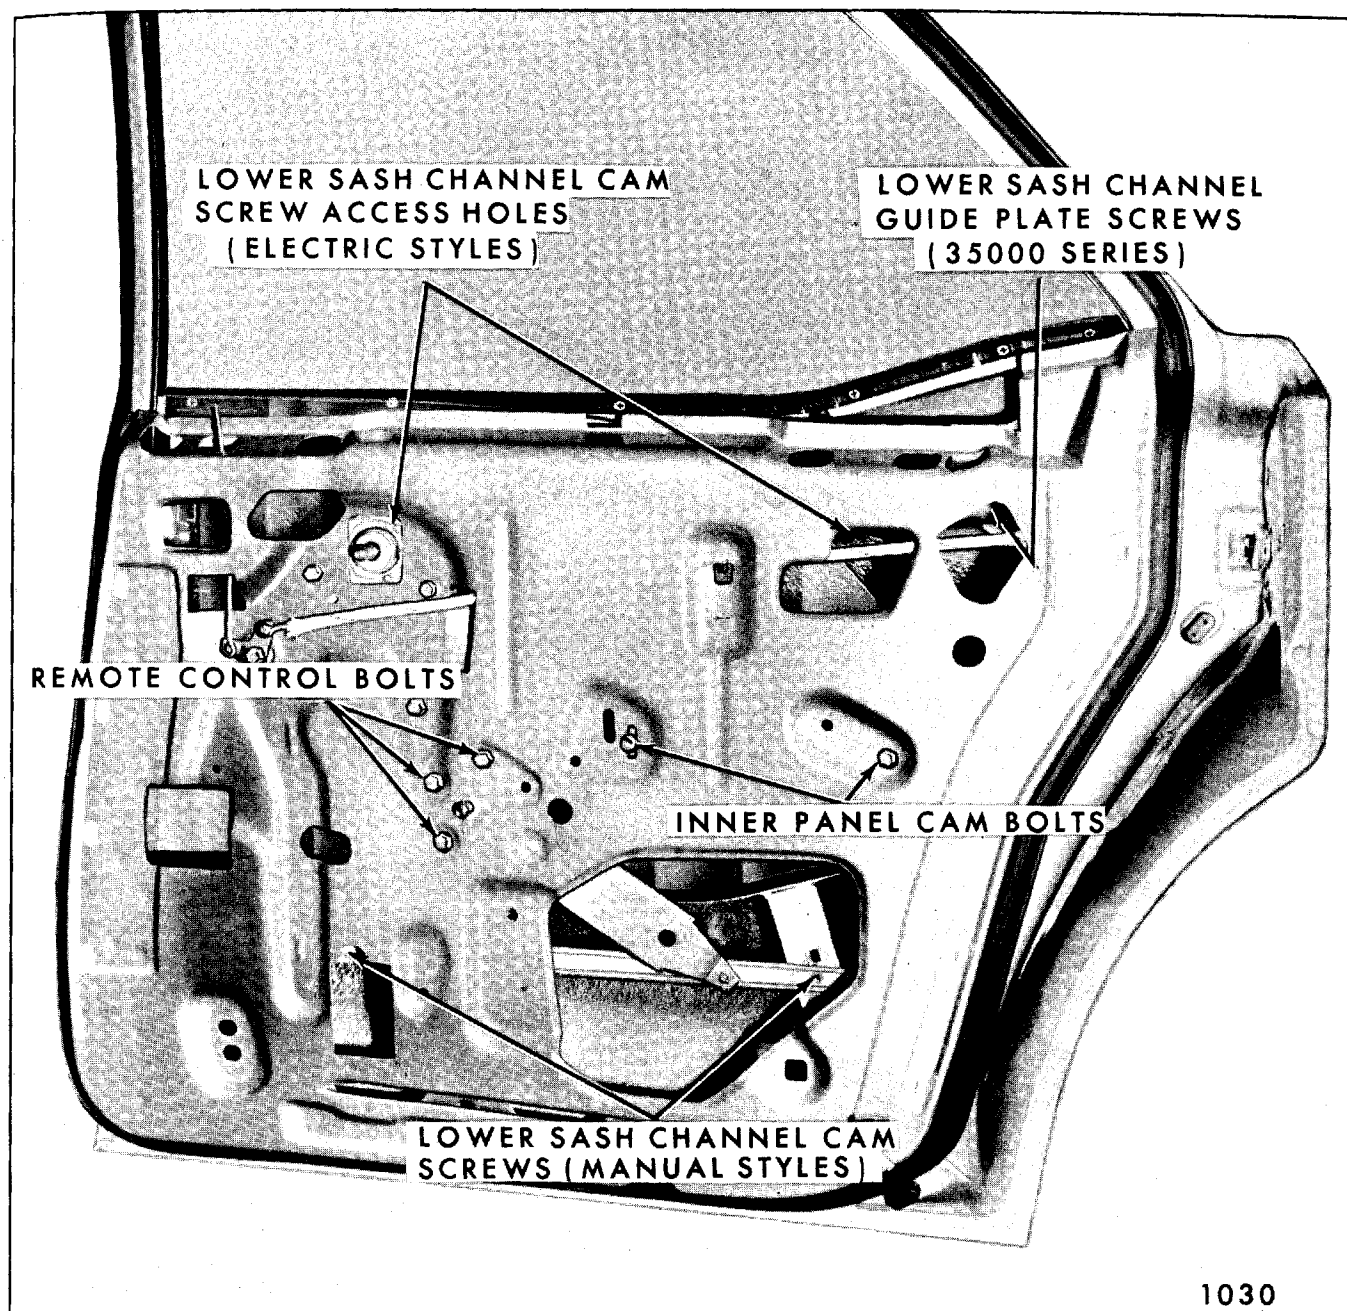
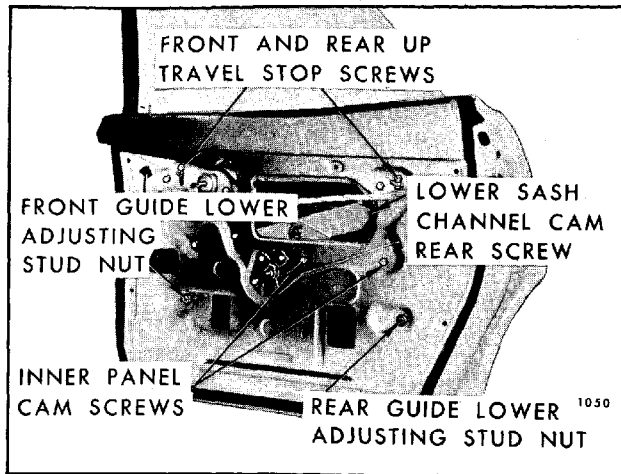

Fig. 7-125—Rear Door Hardware Attachment - "B" Styles Shown - "A" Styles Similar
Fig. 7-126—Rear Door Hardware - "Z-39" Styles
2. Remove inner panel cam attaching bolts (Fig. 7-125). Disengage cam from regulator balance arm roller and remove cam from door.
2. Depending on body style and power options, operate window to position specified in Figure 7-125 for "A-B & C" Styles and Figures 7-126 and 7-127 for "Z" Styles.
3. Remove screws securing glass run channel outer strip assembly to door outer panel return flange (Fig. 7-125) and remove strip assembly.
2. On 35000 Series "69" Styles, lower window approximately 3" down from full-up position. Remove lower sash channel rear guide plate attaching screws through upper rear access hole and remove guide plate (Fig. 7-125).
3. Operate window to position shown in Figure 7-125 and remove lower sash channel cam attaching screws (window slightly down on electric styles and full down on manual).